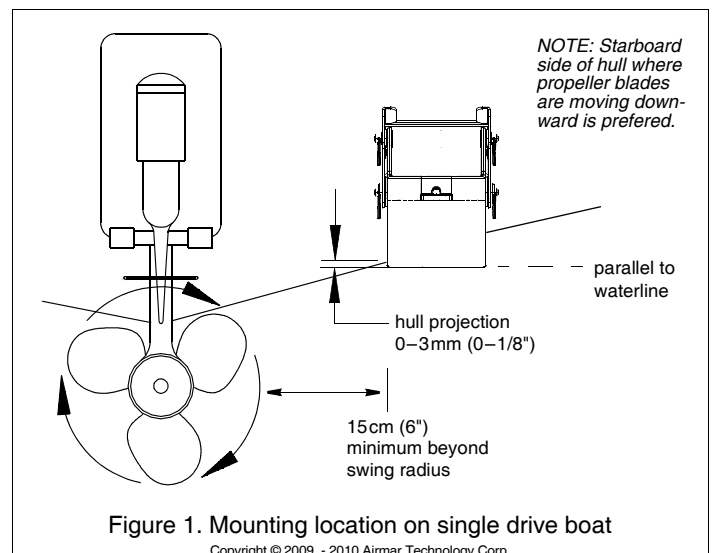
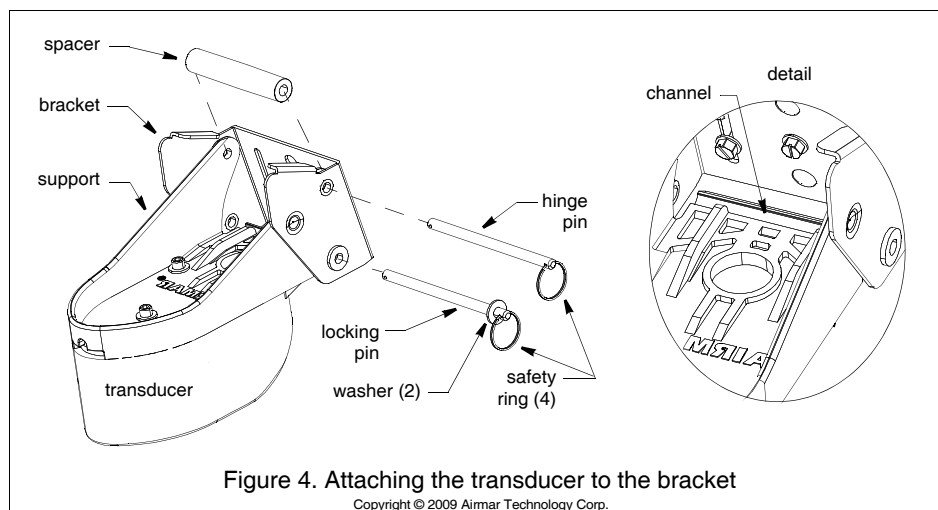
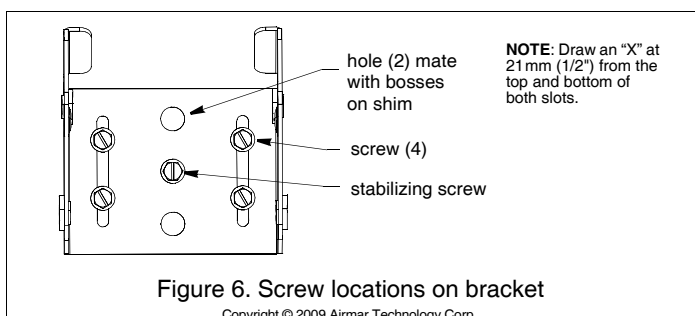

Figure 1. Mounting location on single drive boat
Figure 4. Attaching the transducer to the bracket
Figure 6. Screw locations on bracket
- Mounting on the side of the transom where the propeller blades are moving downward is preferred (see Figure 1).
- **Single drive**—Mount a minimum of 15cm (6") beyond the swing radius of the propeller (see Figure 1).
3. Attach a safety ring to one end of each pin (see Figure 4).
1. At the selected mounting location, position the assembly so the transducer projects 3mm (1/8") below the bottom edge of the transom (see Figure 1). Be sure any shim(s) is in place. (You may want to tape the shim(s) to the bracket temporarily.) With the transducer in the operational position, mark the bottom corners of the bracket.
2. Remove the transducer assembly from the bracket by removing the locking pin and the hinge pin (see Figure 4). Hold the bracket with any shim(s) in place against the transom at the marked location. Draw an "X" at 12mm (1/2") from the top and the bottom of each slot (see Figure 6).
1. Apply marine sealant to the threads of four of the hex-washer-head screws to prevent water seepage into the transom. Being sure any shim(s) is in place, screw the bracket to the hull using a socket wrench (see Figure 4).
5. Using the vertical adjustment space in the bracket slots, slide the assembly up or down until the bottom inside corner of the transducer projections 0–3mm (0–1/8") below the bottom of the hull (see Figure 1). When you are satisfied with the position of the transducer, tighten the four bracket screws. For clear access to the screws, remove the transducer assembly from the bracket (see Figure 4). *When reattaching, be sure to include the spacer.*
- b. Move the transducer deeper into the water in increments of 3mm (1/8") (see Figure 1).
1. Prevent the bracket from moving out of position using the remaining hex-washer-head screw. Drill the hole for the stabilizing screw through the center hole of the bracket, any shim(s), and the hull (see Figure 6).
3. Fasten the stabilizing screw into place with a socket wrench. For clear access to the screw, remove the transducer assembly from the bracket (see Figure 4). *When reattaching the transducer, be sure to include the spacer.*